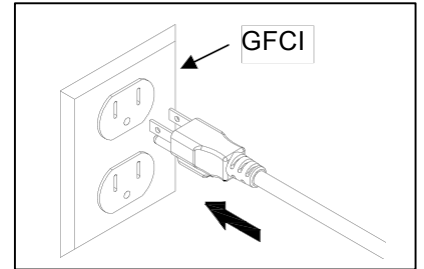

Fig. 18
18. Connect the pump to a proper power source. Fig. 18